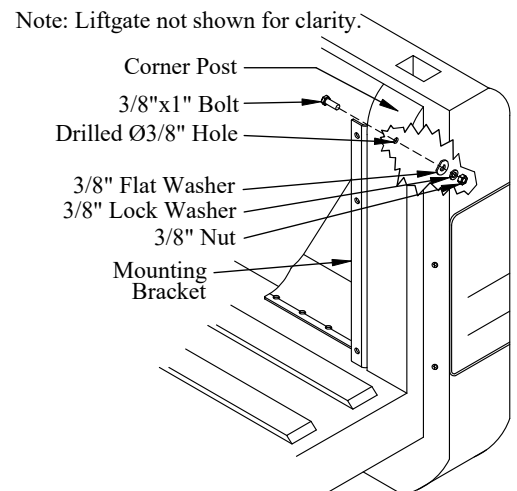

Figure 12: Mounting bracket and backer plates.
- (1) backer plate, (2) lock washers, and (2) hex nuts on the bottom-side.
10. **Drill** one (1) 3/8" hole into the truck corner post using hole in the bracket as a guide (Figure 12).
11. **Fasten** each bracket to the truck corner post using the supplied (Figure 12):